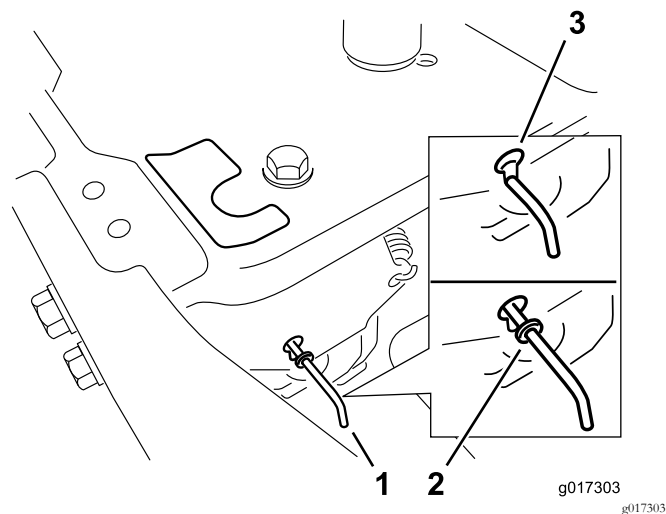

Figure 23
4. Move the bypass levers forward through the key hole and down to lock them in place (Figure 23).
Move the bypass levers rearward through the keyhole and down to lock them in place as shown in Figure 23.